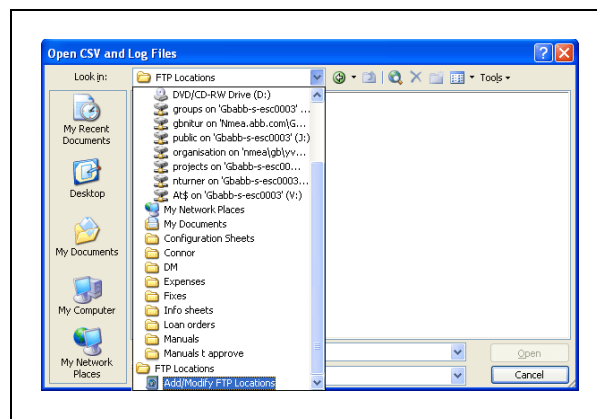
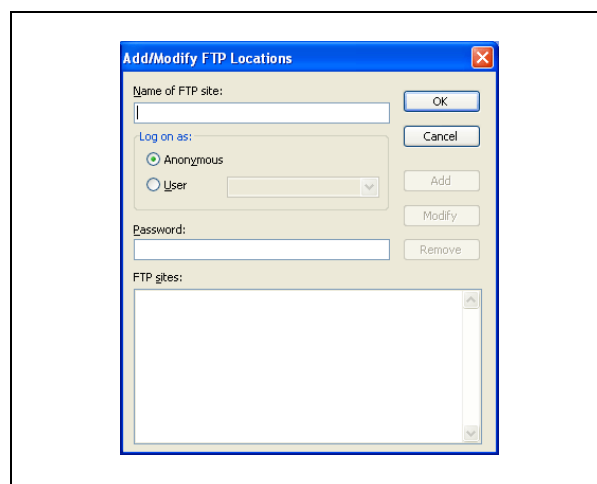

Fig. 3.14 'Look in:' Drop-Down Menu
Fig. 3.15 Add/Modify FTP Locations Dialog Box
8. Open the *Look in:* drop-down menu and select 'Add/Modify FTP Locations' – see Fig. 3.14. The Add/Modify FTP Locations dialog box is displayed – see Fig. 3.15.